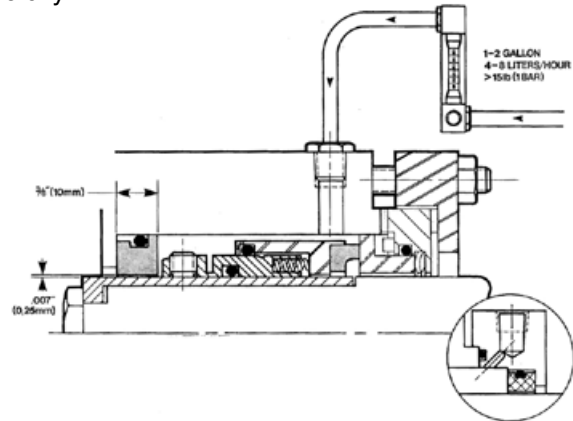

Figure 26 - Flush From An Outside Source and Metered
A double seal by application (Figure 26) is comprised of two (2) mechanical seals applied to a single seal chamber for the purpose of sealing a product that is a VOC, dirty, non-lubricating, or very viscous. Also, they are used for products that solidify or otherwise change state.
A flush (Figure 26) introduces a small amount of fluid into the seal chamber, in close proximity to the sealing faces, and usually used for cooling or other protection of the faces. Flush can come from an outside source or recirculated from the pump discharge, and often recirculated through filters and/or a heat exchanger. Any liquid used for flush is introduced into the product and can cause dilution or contamination in excessive amounts. Choose carefully.